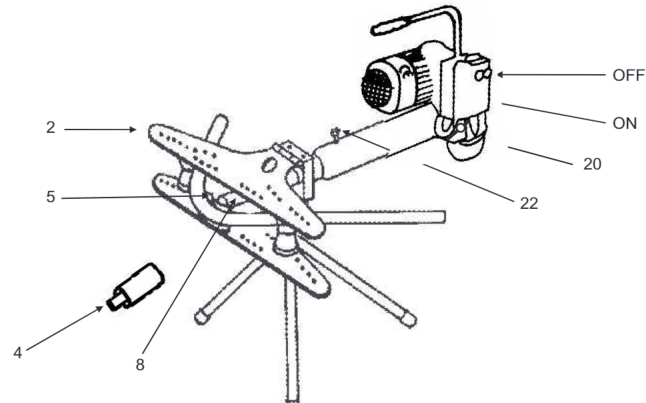

Figure 7
Step 4 : Down upper plate (#2) and tight the release value (#20) in clockwise direction as shown in figure 7
Step 6 : Switch on the machine to create hydraulic pressure as shown in figure 7
Step 7 : After bending the pipe on desired angle, loose release value (#20) in anti clockwise direction to release the pressure as shown in figure 7
Step 8 : Open upper plate (#2) and remove pipe from the former (#5) as shown in figure 7